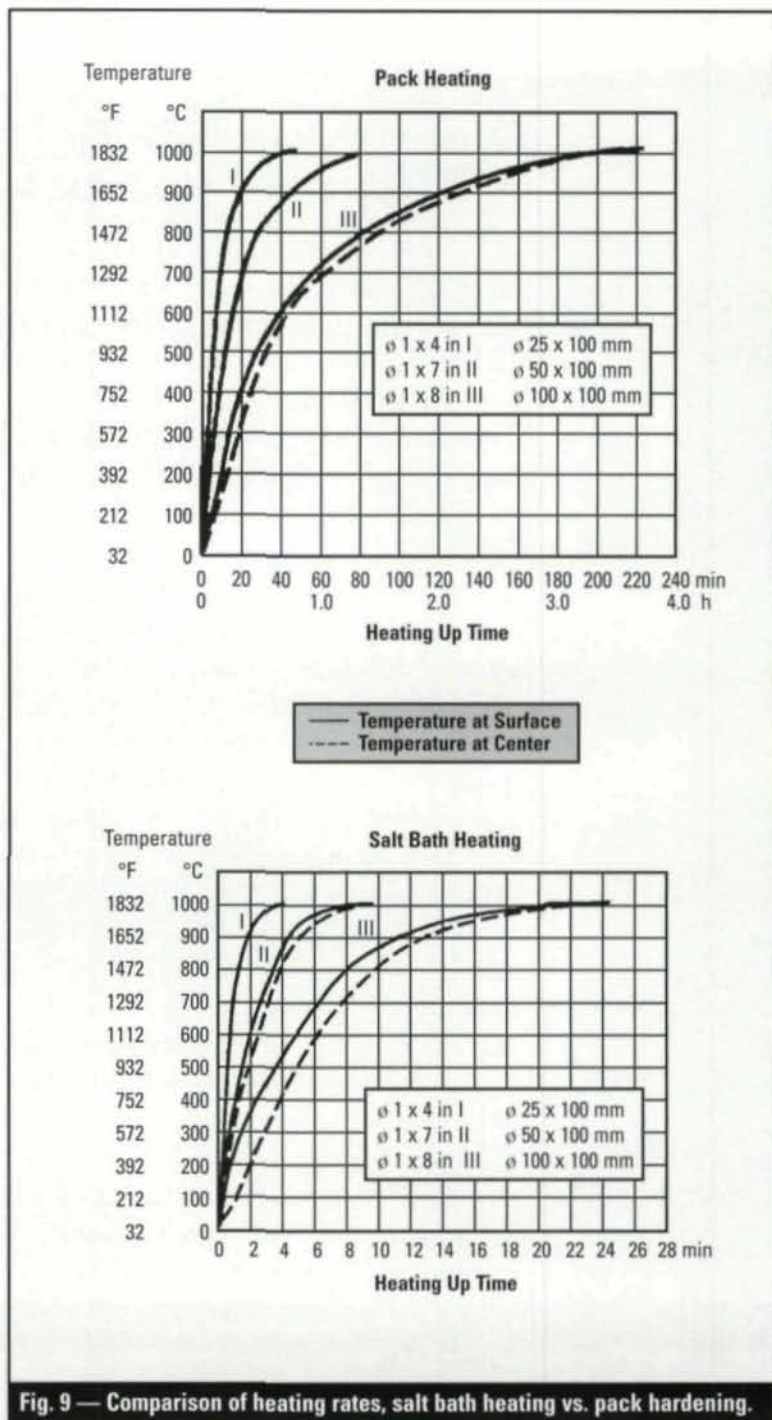

Fig. 9 — Comparison of heating rates, salt bath heating vs. pack hardening.
**Distortion Control During Heating.** The control of distortion during heating is achieved differently in different processes. In general, to minimize distortion it is important to equalize the temperature throughout the part before it undergoes phase changes. In the case of liquid-like media, step heating at various temperatures is used to equalize the temperature between the center and surface of the part. In radiation furnaces where the temperature difference between the center and surface of the part is less, some preheating steps are still necessary. For example, Fig. 9 shows the differences between the center and surface of sections 25 to 100 mm (1 to 4 in.) diameter, when heated to 1000°C (1830°F) in cast iron chips and a salt bath furnace. If the procedures above are adopted, then experience shows that control of distortion during cooling is more important than during heating.